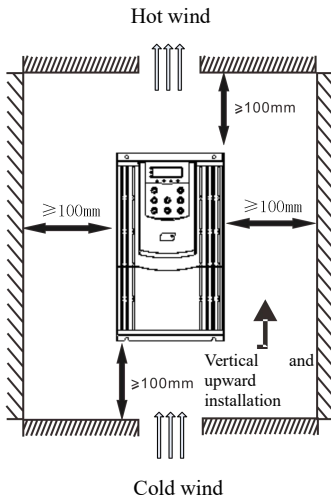

Figure 3-1 . Single Unit Installation Diagram.
- 2) The installation space should conform to Figure 3-1 , ensuring sufficient space for the driver's heat dissipation. However, please consider the heat dissipation of other components in the cabinet when arranging the installation.